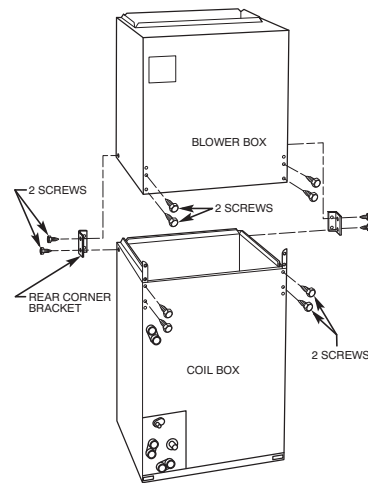

Fig. 4 - Removal of Brackets on Modular Units
**NOTE:** Modular units can be disassembled and components moved separately to installation area for reassembly. This process accommodates small scuttle holes and limiting entrances to installation sites. (See Fig. 4.)